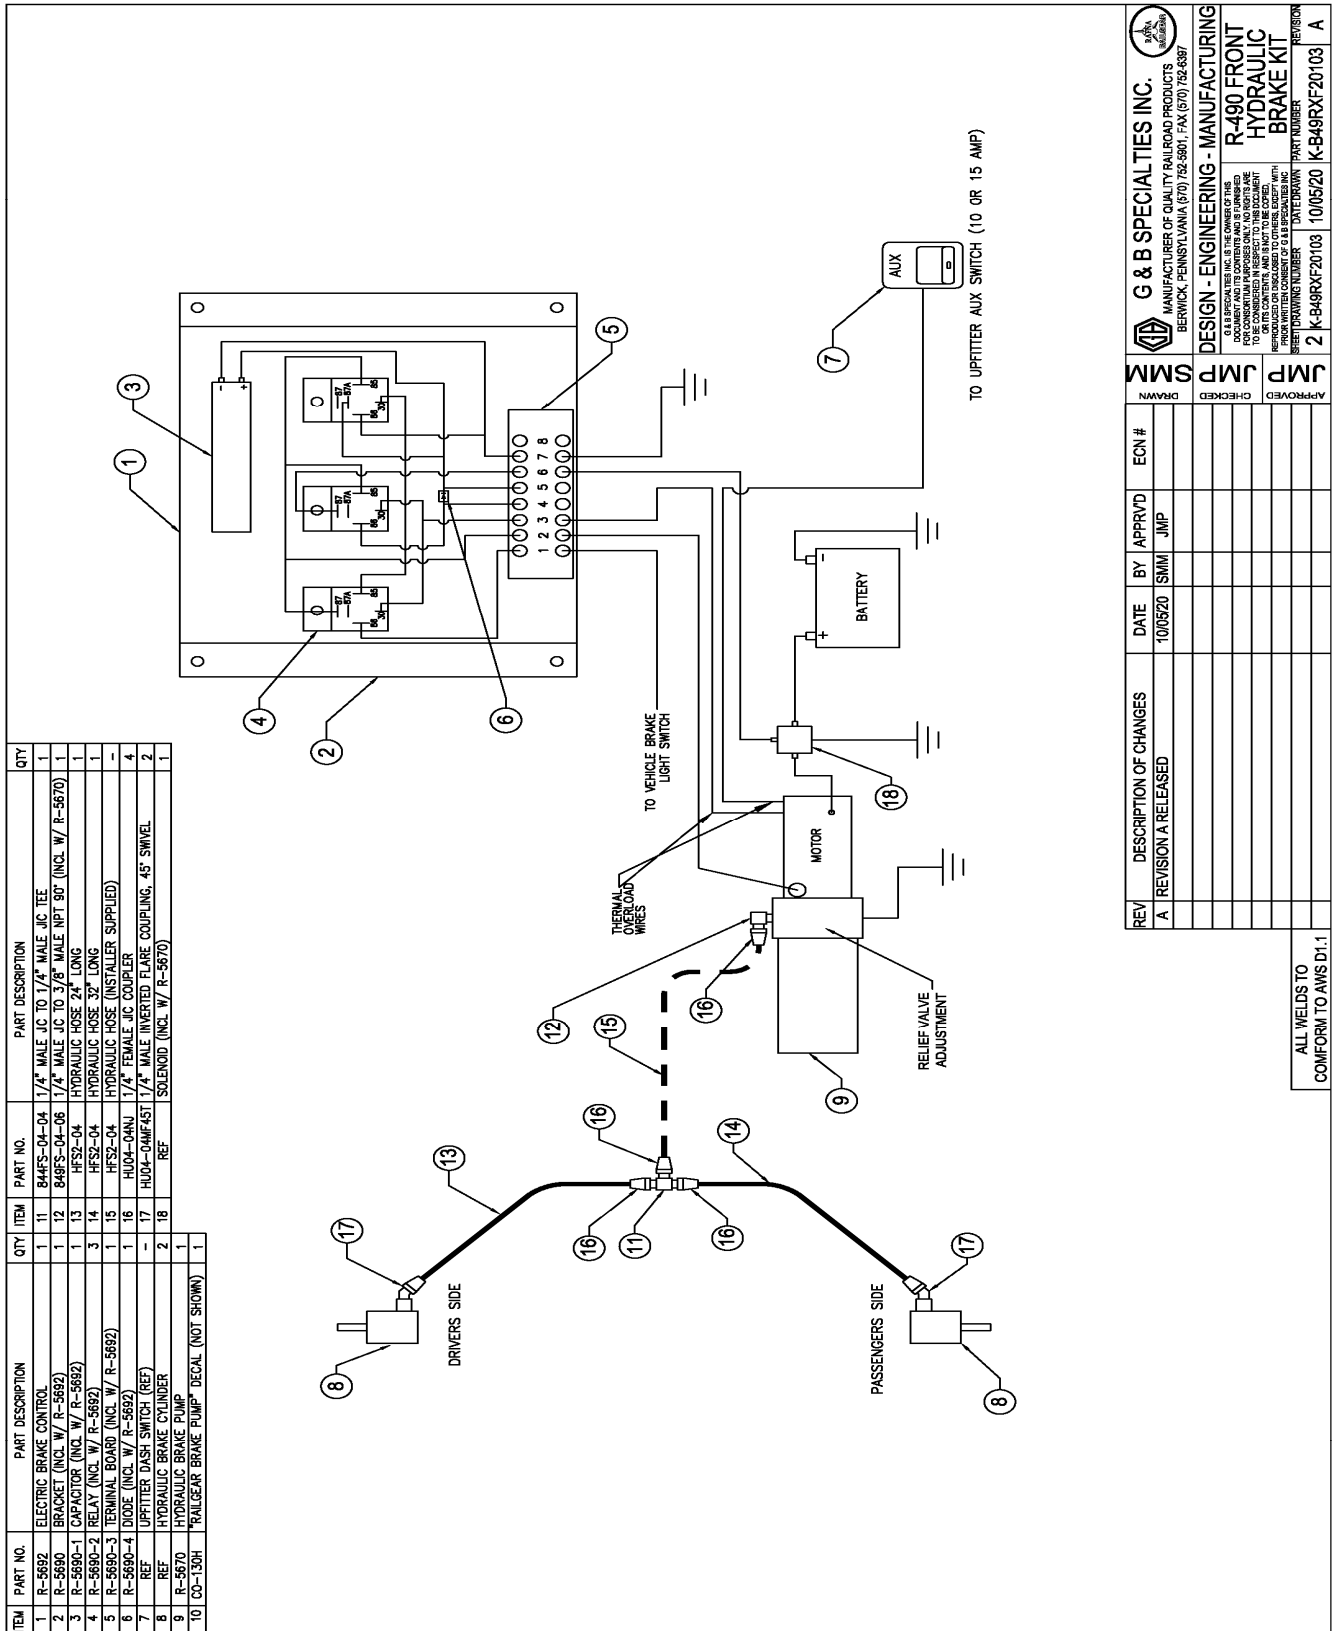

Figure 8: Brake Pump Hydraulic/Wiring Schematic (Upfitter Switch)
15. Optional Upfitter Switch Installation: (Figure 8)